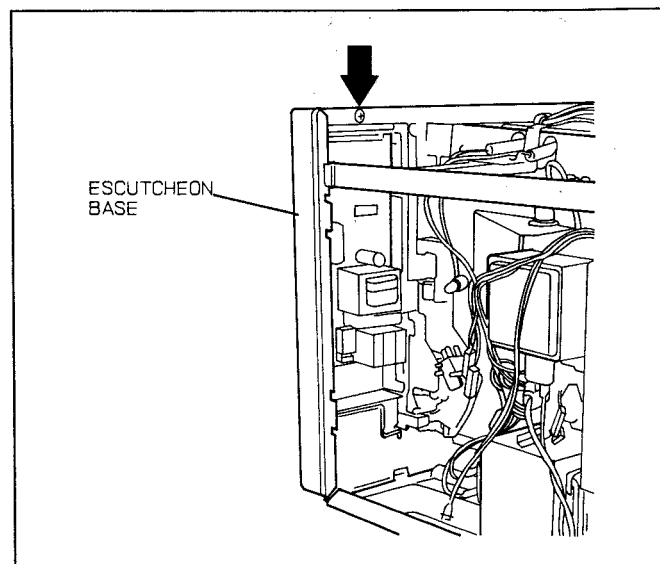

Fig. 19
- (A) Disconnect all connectors from D.P.C.. (Fig. 19)
- (B) Disconnect all lead wires from the power relay B, C and D.
- (C) Remove 1 screw holding the escutcheon base. (Fig. 19)